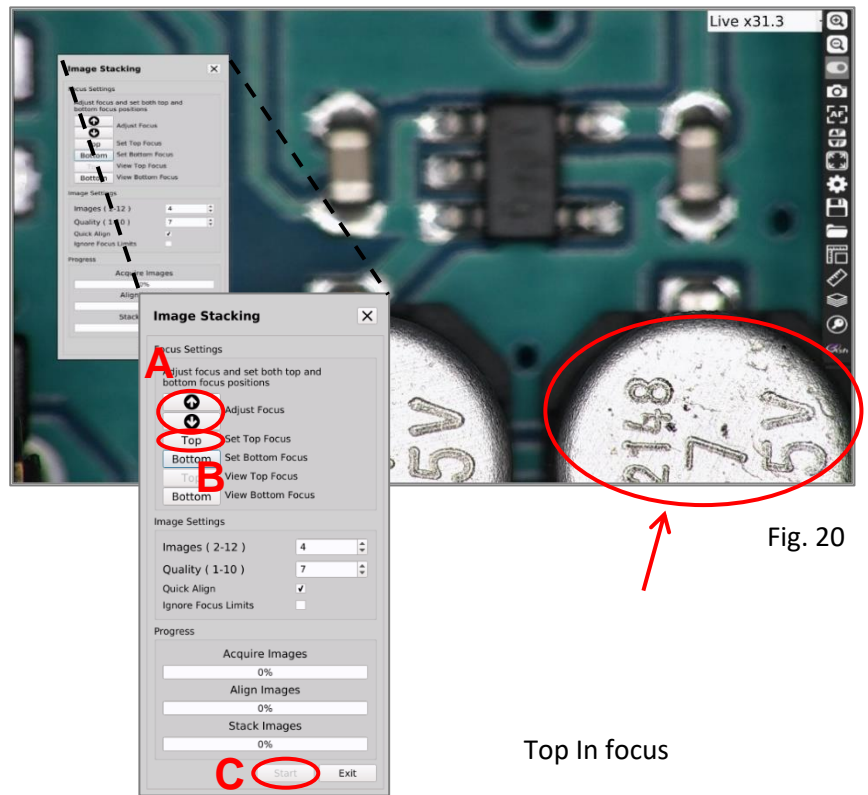

Fig. 20
3. Now bring the top of the sample into focus with the Adjust Focus up and down arrow buttons (A), click on the **Set Top Focus** button (B), the **View Top Focus** button will then become active (Fig. 20).